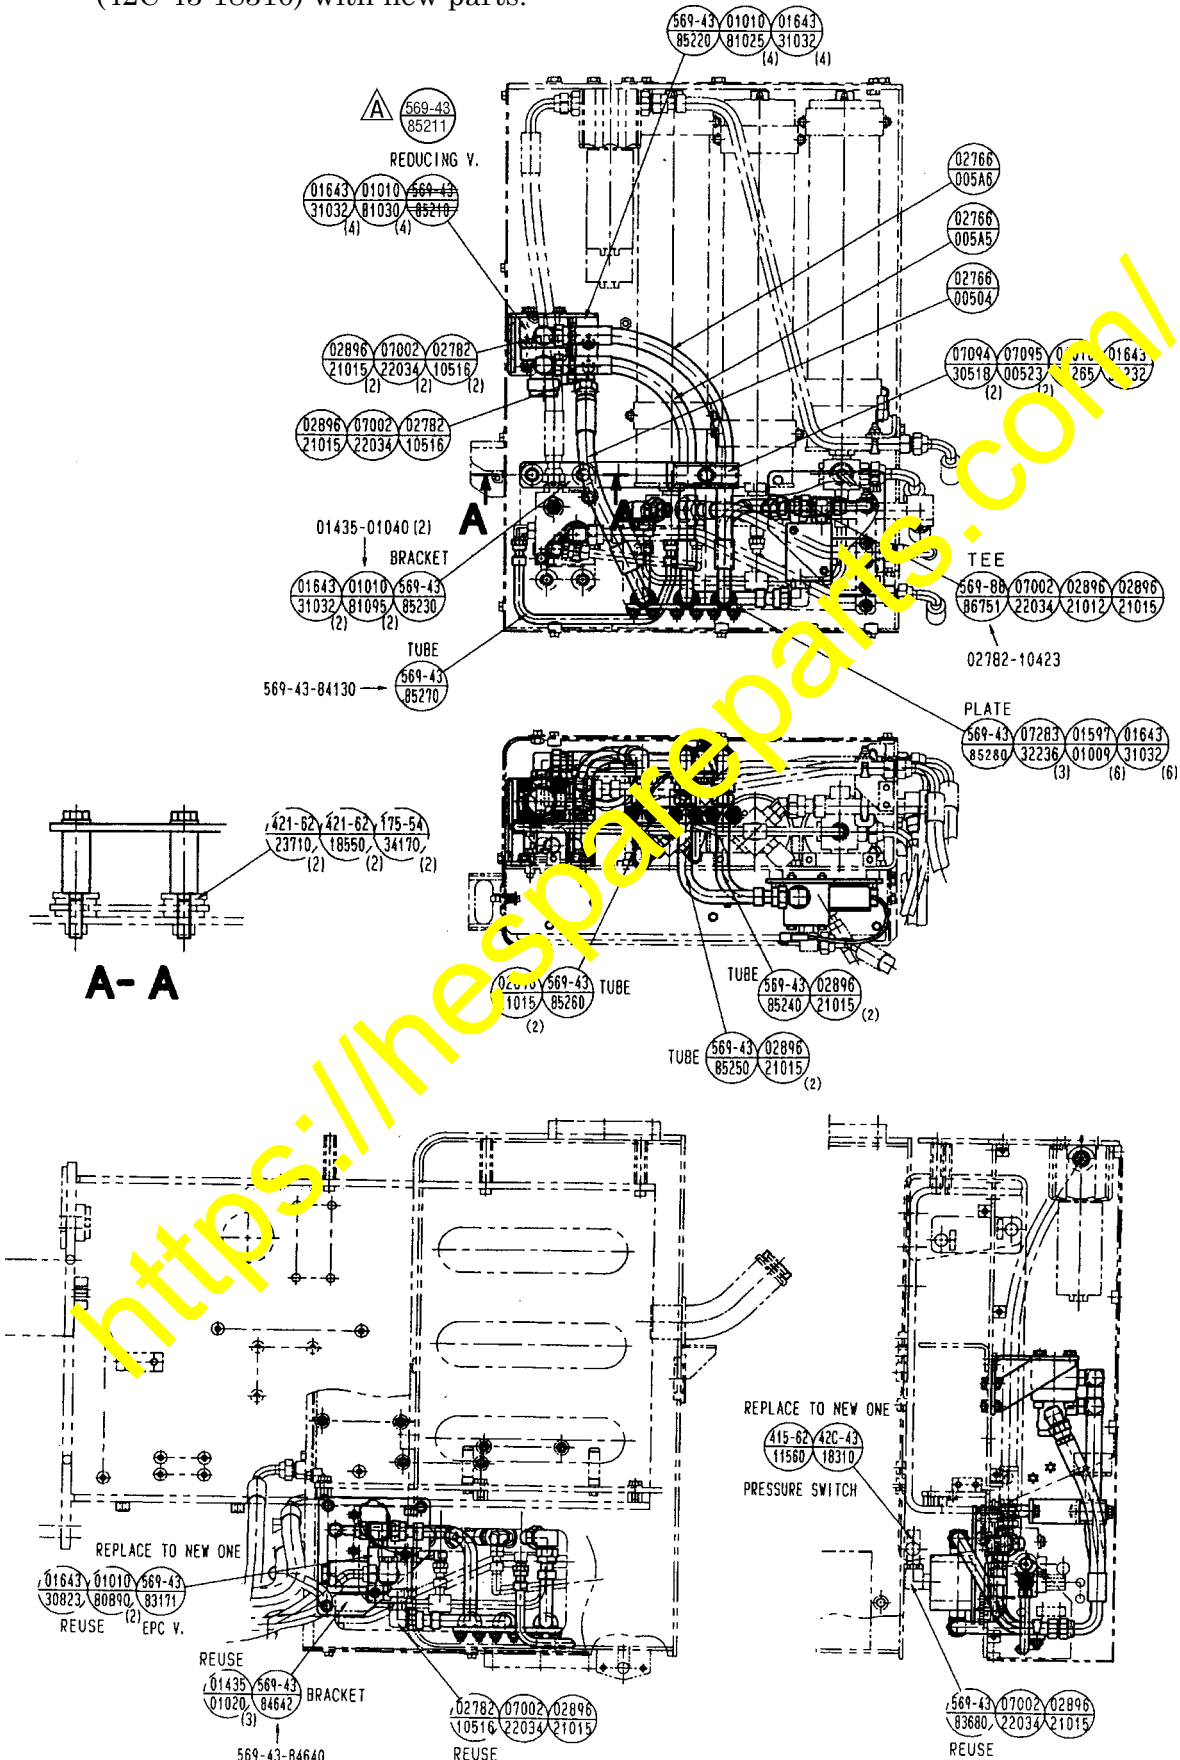

Fig. 7
- 4) Referring to the drawing shown below, install the relief valve and the pipings, etc. (Refer to Fig. 7)